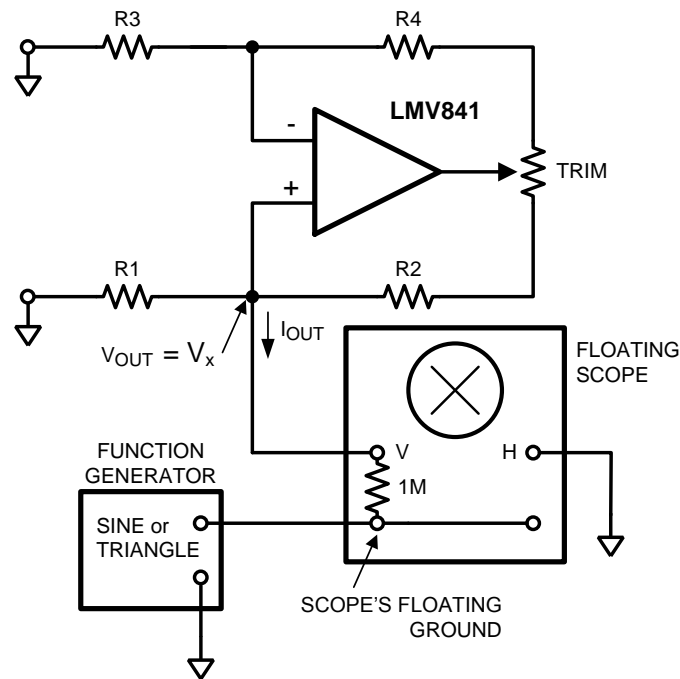

Figure 13. Good Test for Z_{OUT} Using Floating Scope
Refer to Figure 13. An ordinary sine or triangle wave function generator can be used to drive the V_{out} node. A floating scope is inserted between the function generator and the V_{out} . Any current flowing into or out of V_{out} , can be seen on the scope's vertical display. When this is cross-plotted against the main V_{out} , by connecting ground to the horizontal (X) input, it is easy to see the slope of I_{out} versus V_{out} . Then it is easy to adjust the trim pot as in Figure 2, Figure 3, or Figure 4, to trim for very high Z_{out} . It is easy to get the curve just about flat, for the range of interest to you. Of course, if you want a very wide voltage range, you may find some curvature or nonlinearity. Most op-amps are not perfect for linearity of Common Mode Range, but some are better than others.